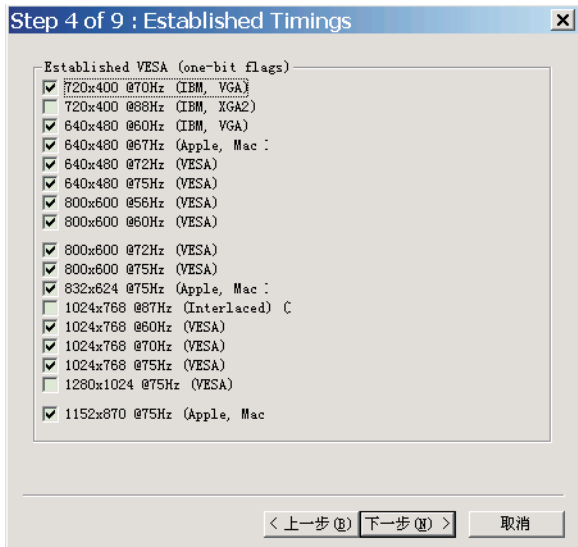

Fig. 34
- 3. Click Next , bring up Fig. 34.